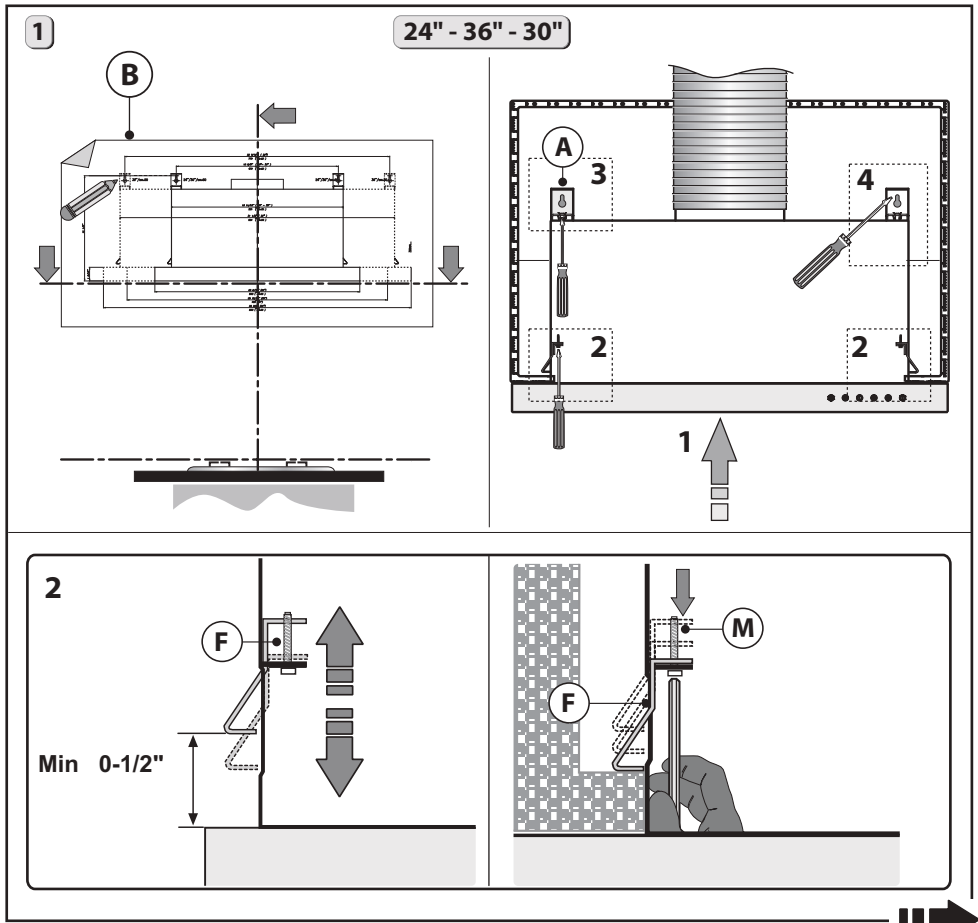
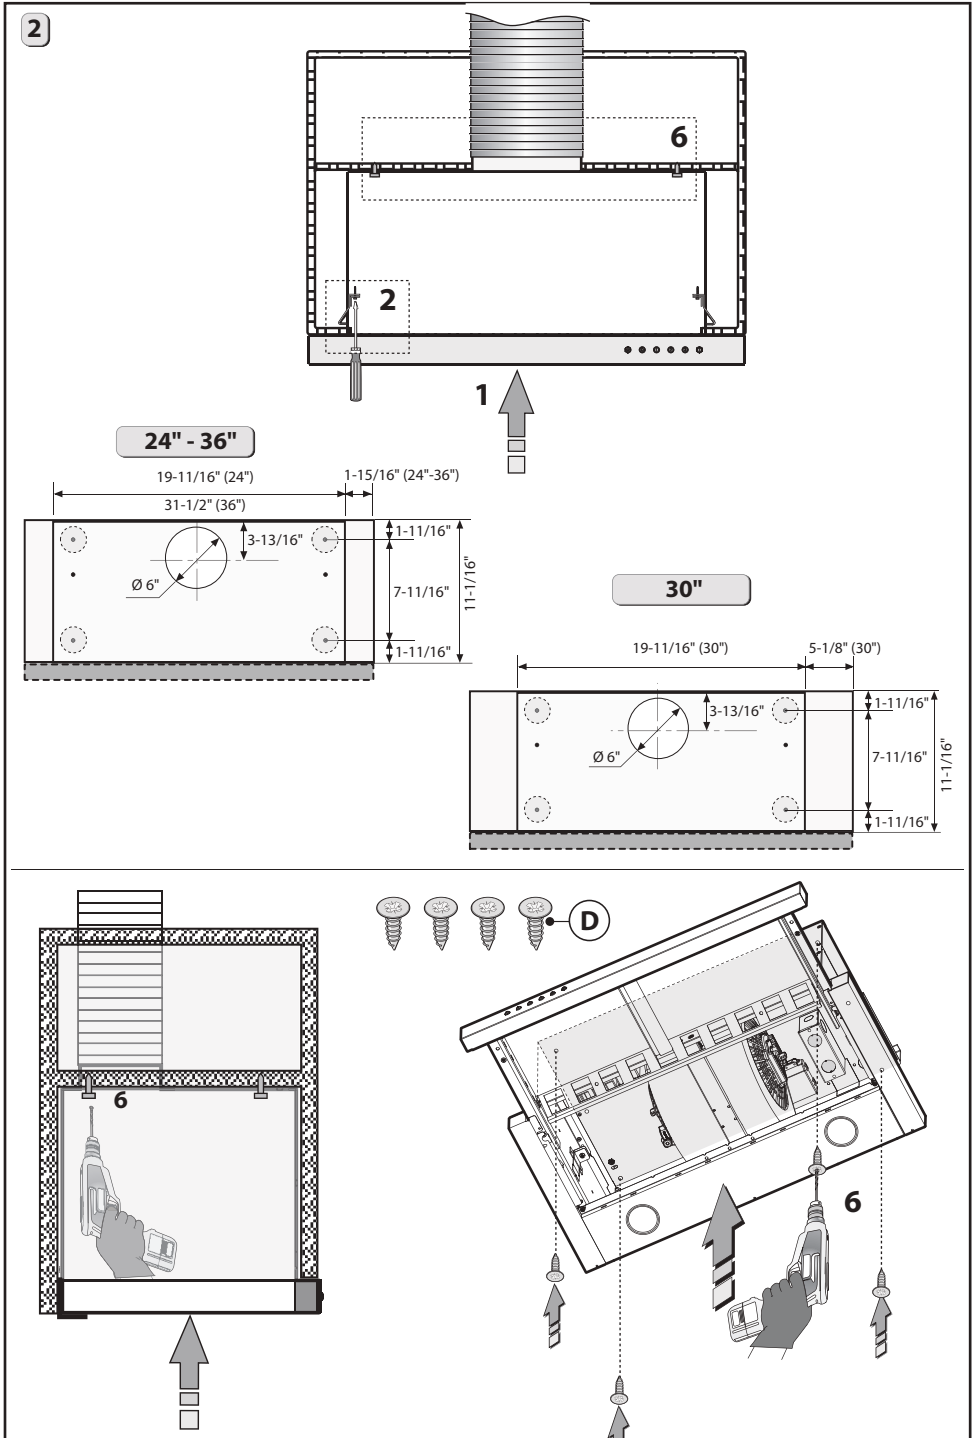

Fig.4
Fig.5
1. Remove pin Y from bracket A. (Pin Y can be discarded.) Then place the insert X on the slot of the bracket A, as indicated in Fig. 4 - step 3. Match the C screws with the L washer and attach the A bracket to the cabinet as indicated in Fig. 4 - step 3.1. Do not completely tighten screws C to allow the bracket to slide back and forth.
- Mark the references to fasten brackets A to the wall cabinet, as indicated in Fig. 4.
3. Make sure the thickness of the wall cabinet is within the parameters indicated in Fig. 4 - step 2.
firmly against the wall cabinet (Fig. 4 - step 2).
5. Remove pin Y from bracket A. (Pin Y can be discarded.) Then place the insert X on the slot of the bracket A, as indicated in Fig. 4 - step 3.
6. After any adjusting to ensure the bracket touches the wall cabinet, tighten the bracket to the body (Fig. 4 - step 3.3).
- Fasten screw D to the wall cabinet as indicated in Fig. 4 - step 4.
- Once you have fastened the hood to the wall cabinet, adjust the spacer L, with the screws P, to make the device line up with the rear wall cabinet (Fig.. 4 - step 5).
4 - Install the hood in the wall cabinet and make sure the 2 side springs F are connected correctly. Fasten the hood to the wall cabinet using the screwdriver and the relative screws M and tighten until the device is firmly against the wall cabinet (Fig. 4 - step 2).
5 - Fasten the hood to the upper support shelf as indicated in Fig. 5 - step 6. - Once you have fastened the hood to the wall cabinet, adjust the spacer L, with screws P, to fill the gap between the hood and rear wall. (Fig. 4 - step 5).
This model includes side installation to the wall cabinet by using 2 brackets B (Fig. 6 besides steps 3-4, indicated in Fig 4).
4- Remove pin Y from bracket A. (Pin can be discarded.) Then place the insert X on the slot of the bracket A, as indicated in Fig. 4 - step 3.
- Match the C screws with the L washer and fix the A bracket to the cabinet as indicated in Fig. 4 - step 3.1. Pay attention not to completely tighten screws C before the bracket firmly reaches the wall cabinet (Fig. 4 - step 3.2). After any adjusting, tighten the bracket to the body (Fig. 4 - step 3.3).
- Once you have fastened the hood to the wall cabinet, adjust the spacer L, with screws P, to make the device line up the rear wall cabinet (Fig. 4 - step 5).